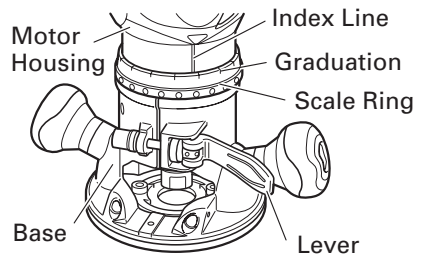

Fig. 5
- (1) Place the tool on a flat wood surface.
- (2) Open the lever and turn the motor housing until the bit just touches the flat surface. (Fig. 5)
(4) While holding up the base slightly, turn the motor housing clockwise until the index line on the motor housing reaches the desired depth indicated on the scale ring. (Fig. 5)
(5) Close the lever firmly.